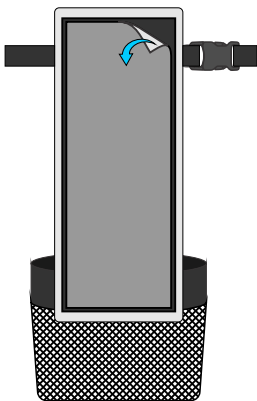

Fig 2.3A
2.3.2 Remove the large self adhesive velcro patch from the back of the bracket (see Fig 2.3A).